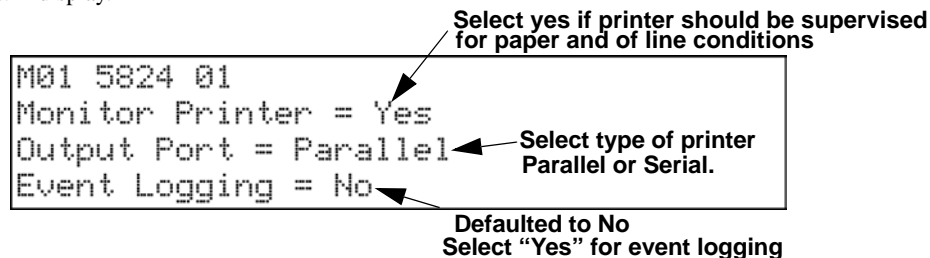

Figure 4.26 Selecting Printer and Output Port Options
5. Press right arrow twice to skip over the Enter Module ID and Enter Module Name options. A screen similar to the one shown in Figure 4.26 will display.